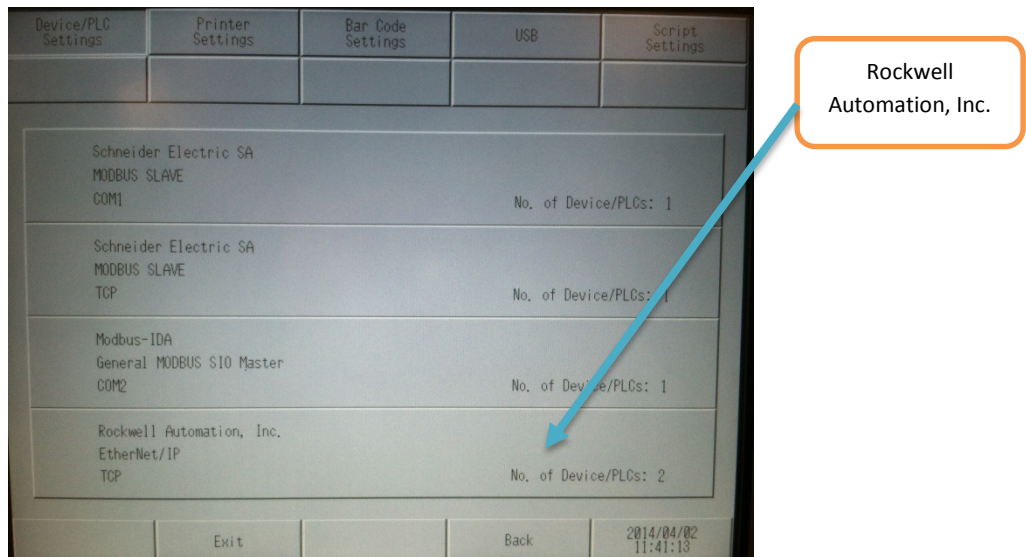

Figure 8: Device PLC Settings screen
9. From Device PLC Settings screen select Rockwell Automation from the list. See Figure 8.